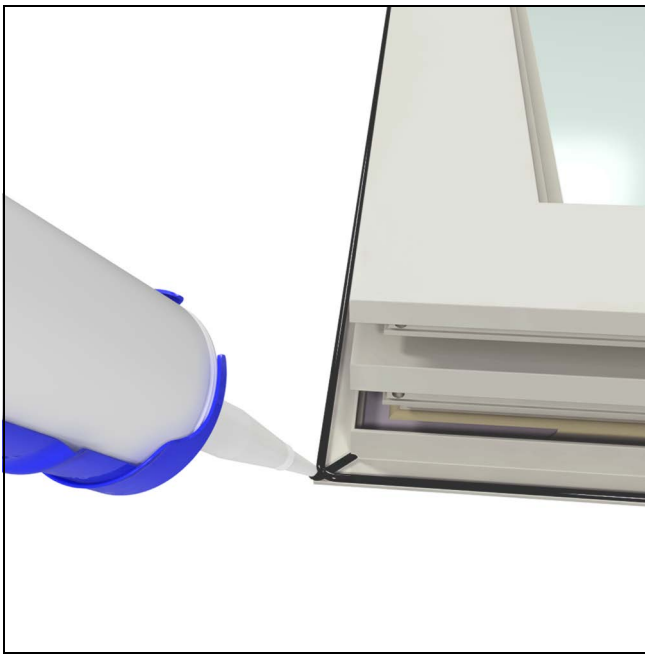

Figure 8
3. Add an additional bead of sealant following the flange jamb to sill miters and the head jamb to jamb miters on the interior surface of the flange. See Figure 8.